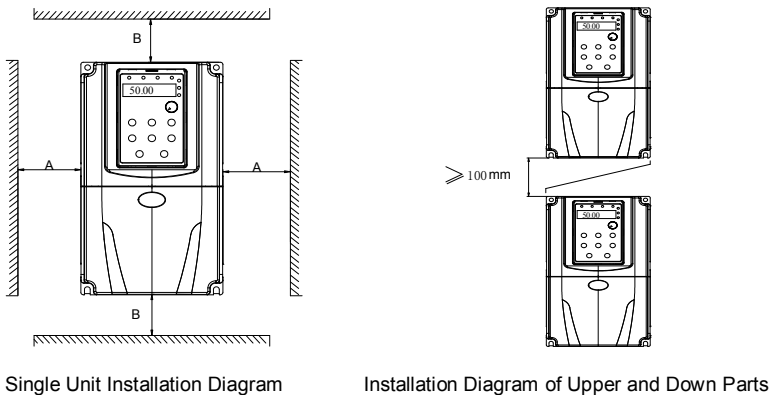

Figure 3-1 Installation Diagram
- 1) Install the inverter vertically so that the heat may be expelled from the top. However, the equipment cannot be installed upside down. If there are multiple inverters, parallel installation is a better choice. In applications where the upper and lower inverters need to be installed, please refer to Figure 3-1 “AE300 Series Inverter Installation Diagram” and install an insulating splitter.
- 2) The mounting space should be as indicated as Figure 3-1, so as to ensure the heat dissipation space of the inverter. However, the heat dissipation of other devices in the cabinet should also be taken into account.